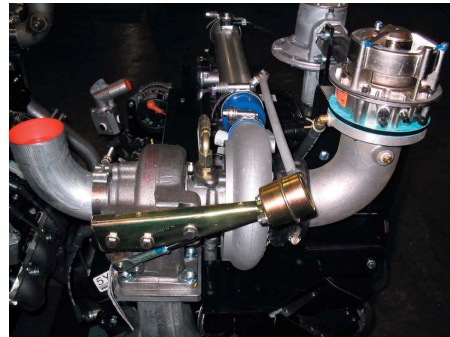

Figure 1-6: 8.1L Turbo – 475 Series Mixer
- Figure 1-6..... 8.1L Turbo – 475 Series Mixer